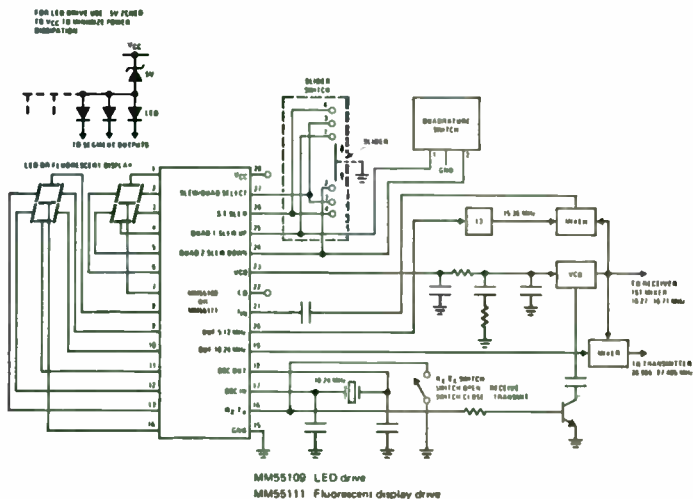

Fig. D-12. MM55109 or MM55111 single-crystal, 40-channel low side injection.
mit mode ($N + 91$) depending on the logic level at the receive/transmit input (Rx/Tx). Phase detector logic is also incorporated to accomplish the frequency synthesis. The phase comparator output (θ VCO) provides a high level voltage (sources current) when the external VCO frequency is lower than the lock frequency, and the θ VCO output provides a low level voltage (sink current) when the external VCO frequency is higher than the lock frequency. The θ VCO output goes to a high impedance state (TRI-STATE®) when in the lock mode, and the Lock Detector output (LD) also goes to a high level voltage state under lock conditions. Figures D-12 through D-14 show typical applications.